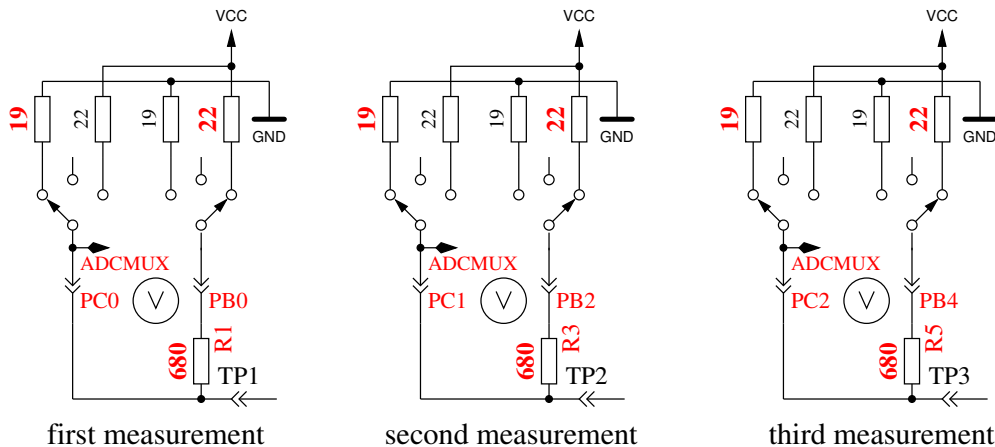

Figure 5.47: Measurement of internal resistance of Port C switched to GND
5. **This step tests the capability of GND (-) connected 470kΩ resistors (H) to pull the test pins to GND.** Row 1 shows the text “RH-”. Row 2 should display zero for all three pins.
6. **This step tests the capability of VCC (+) connected 470kΩ resistors (H) to pull the test pins to VCC (+).** Row 1 shows the text “RH+”. The results are shown als difference to VCC and should be near zero. Great differences from the best value for test 5 and 6 are errors such as isolation problem, flux material or damaged port.
8. **Measuring of internal resistance of pin output switched to the GND signal.** This test and the follwing tests will only be done, if the option AUTO_CAL is selected. The internal resistance of the port C outputs switched to GND (-) are measured with the current of to VCC (+) switched 680Ω resistors, see Figure 5.47. Only the three pins of the ADC port are measured, the resistor port B (PB0,PB2 and PB4) can not be measured without hardware modification. Is is assumed that the port resistance of the different ports are nearly identical. The resistor value will be shown in the next test.